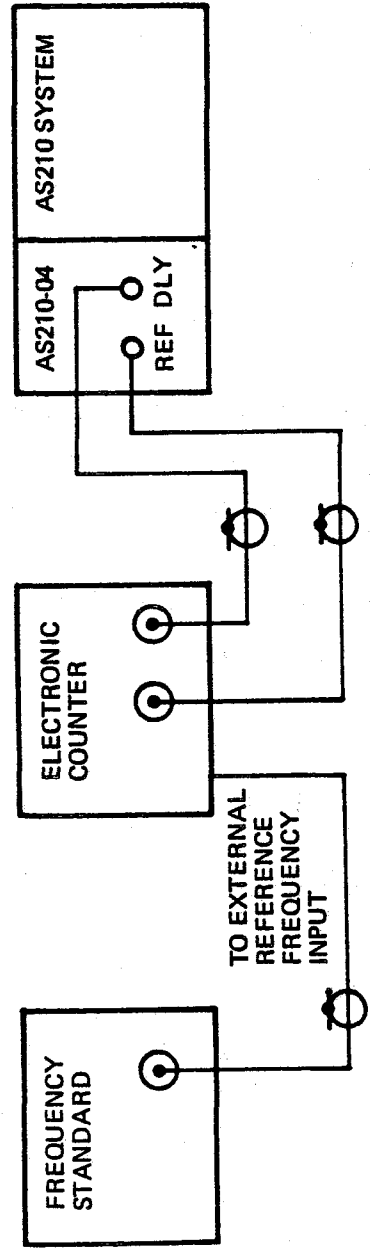

Figure 5.1 Test Configuration for Time Interval Performance Test of the AS210-04
- B. Connect the equipment as indicated in Figure 5.1 and apply power to the AS210. The Rubidium Frequency Standard in the AS210 system will require 20 minutes warm-up time to reach the specified frequency accuracy.